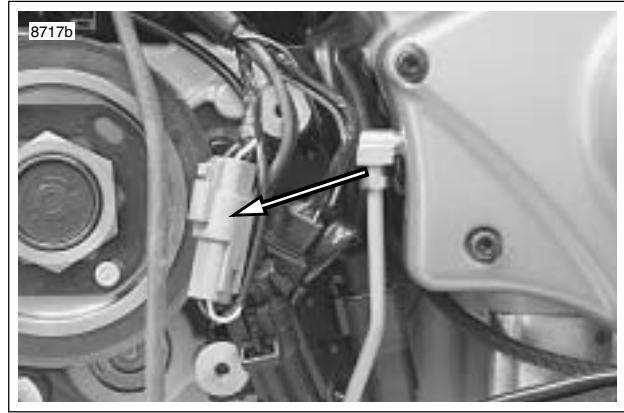

Figure 7-89. Vehicle Speed Sensor Connector [65]
7. Use cable strap (5) to secure cam position sensor (1), cam position sensor wiring (3), neutral switch connector (4) and neutral switch connector wiring (6).
8. See Figure 7-89. Connect vehicle speed sensor connector.